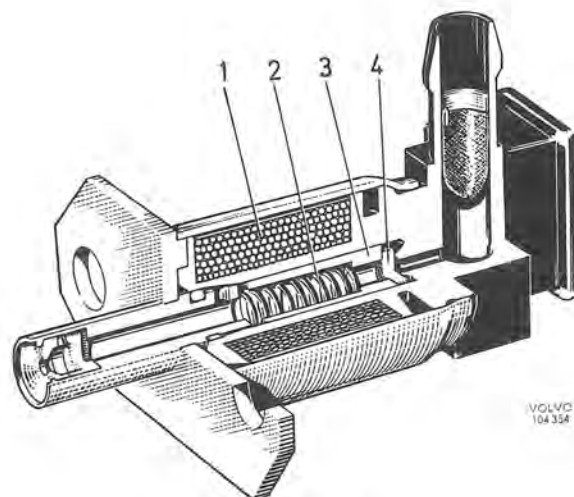

Fig. 2-107. Cold start valve
The cold start valve consists of a housing in which a magnetic winding and an armature are housed together with a return spring and packing, see Fig. 2-107. When the magnetic winding (1) is not in circuit, the packing (4) presses against the inlet for the armature (3) which in its turn is actuated by the return spring (2). This keeps the cold start valve closed.